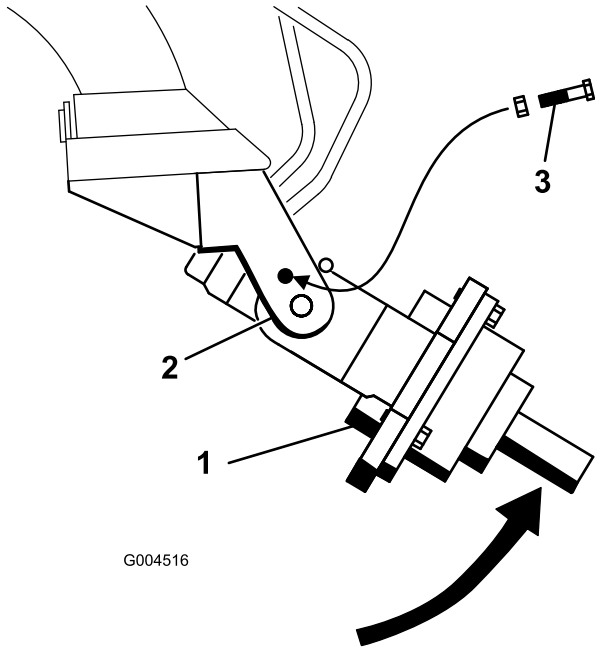

Figure 5
- Manually rotate the auger drive head up, until you can slide a bolt (1/2 x 2-1/2 inches) into the hole in the cradle arm, securing the drive head. Lightly secure the bolt with a nut (1/2 inch) as shown in Figure 5.
3. Manually rotate the auger drive head up, until you can slide a bolt (1/2 x 2-1/2 inches) into the hole in the cradle arm, securing the drive head. Lightly secure the bolt with a nut (1/2 inch) as shown in Figure 5.